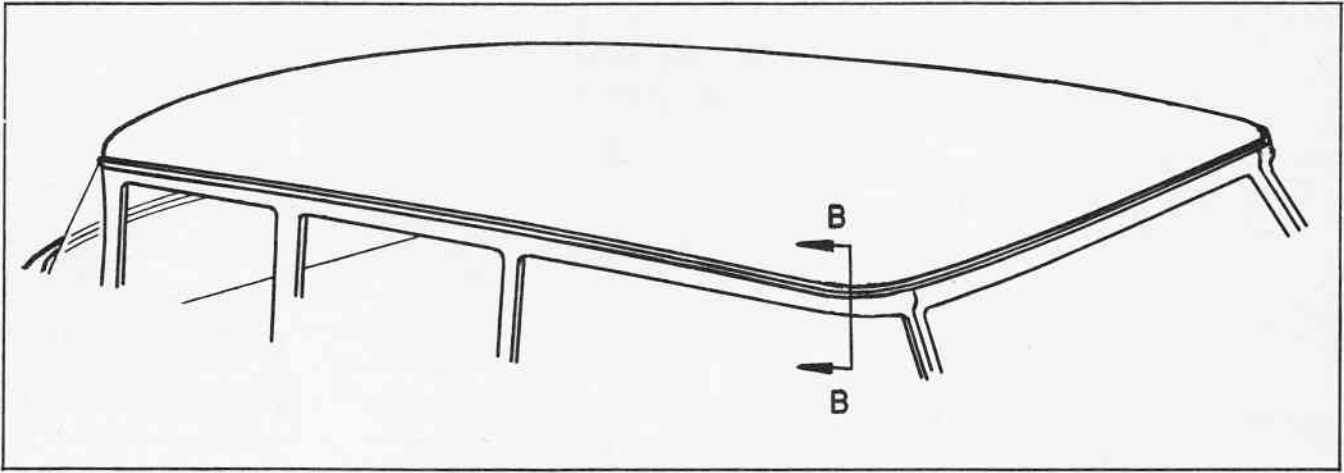

Fig. 9 Station Wagon Drip Moulding Area
2. Apply thin coat of neoprene weatherstrip cement at point "A" (Fig. 9).